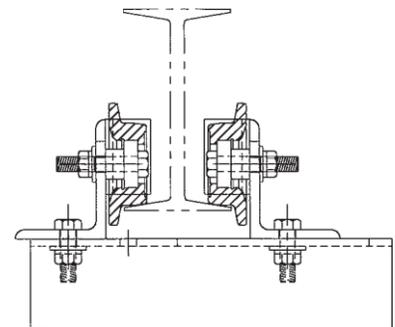

Figure 4 – Bottom running
1. **BOTTOM RUNNING CONFIGURATION.** Place the adjustable end truck on one of the parallel I-beams. Wheels are pre-installed in the bottom running position. Loosen the 1/2" bolt located in the slot at the end of the truck. Move the two (2) end truck halves so that there is 1/8" clearance between the wheel flange and the beam flange on each side. Tighten the 1/2" bolt to 85 foot-pounds torque. Repeat procedure for the other end of the truck. **The 1/2" bolt must be tight or the truck might come off the beam.** Repeat the above procedure on the second end truck included with your kit (See Figure 4).